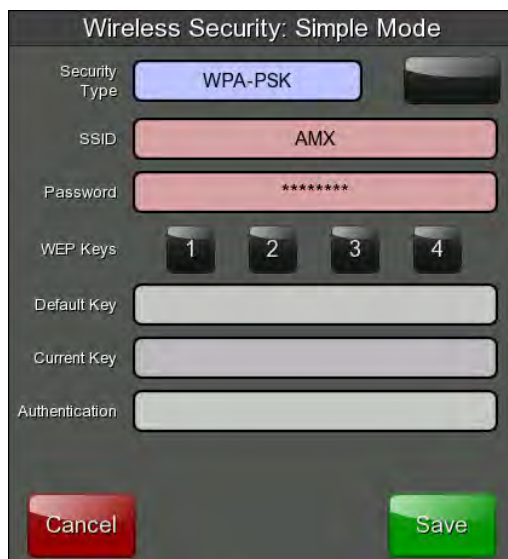

FIG. 26 Wireless Security: Simple Mode: WPA-PSK
- A similar process occurs for *WPA-PSK* access points (FIG. 26).